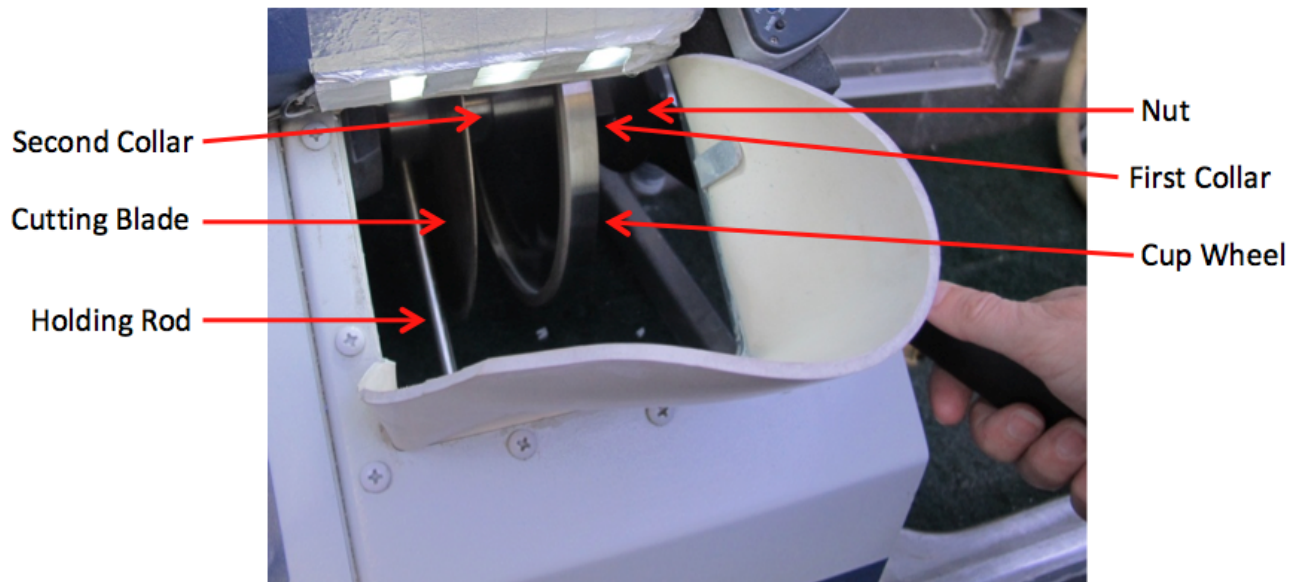

Figure 7
1. Remove the cutting blade and cup wheel from the Petrothin (Fig. 7).
- a. Insert the holding rod into the hole on the inmost collar (Fig. 7).
- b. Use a 1 ½ in. wrench to take off the nut, take note of which way it is facing. The side with the raised edge should be facing the inside of the PetroThin (Fig. 7 and 8).
- c. Remove the first collar and take note of which way it is facing. The side with the raised outer edge should be facing the inside of the PetroThin (Fig. 7 and 8).
- a. Carefully take off the cup wheel (Fig. 7).
- b. Then remove the second collar (Fig. 7 and 9). Both sides of this collar are the same so it does not matter which way it is facing. Sometime it is difficult to get it off, the best way to "unstick it" is by tapping it lightly with a brass hammer (so it will not damage the collar).